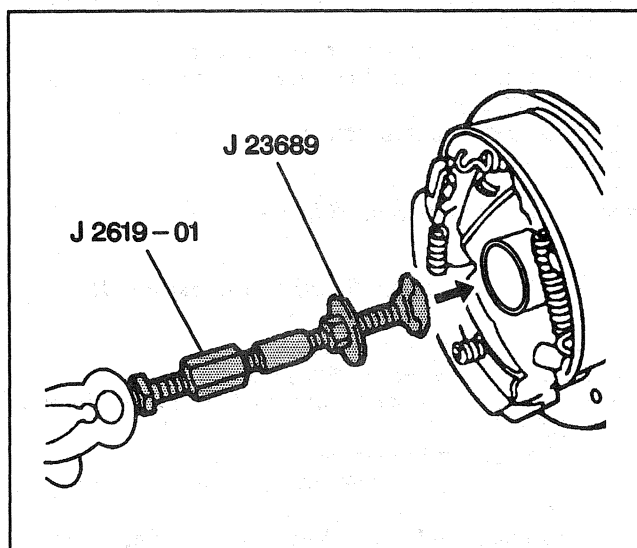

Figure 11—Removing the Bearing and Seal
- B. Insert the tool into the axle bore so that it grasps behind the bearing (Figure 11). Tighten the nut and washer against the face of the bearing. Pull the bearing out using J 2619-01.